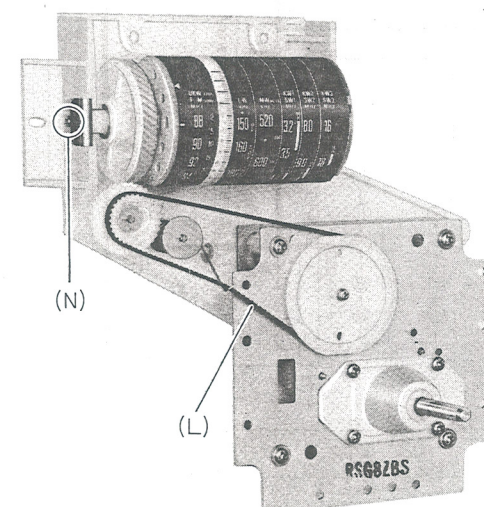

Fig. 12
- * 4. Set the dial scale at the position, as shown in fig. 12.